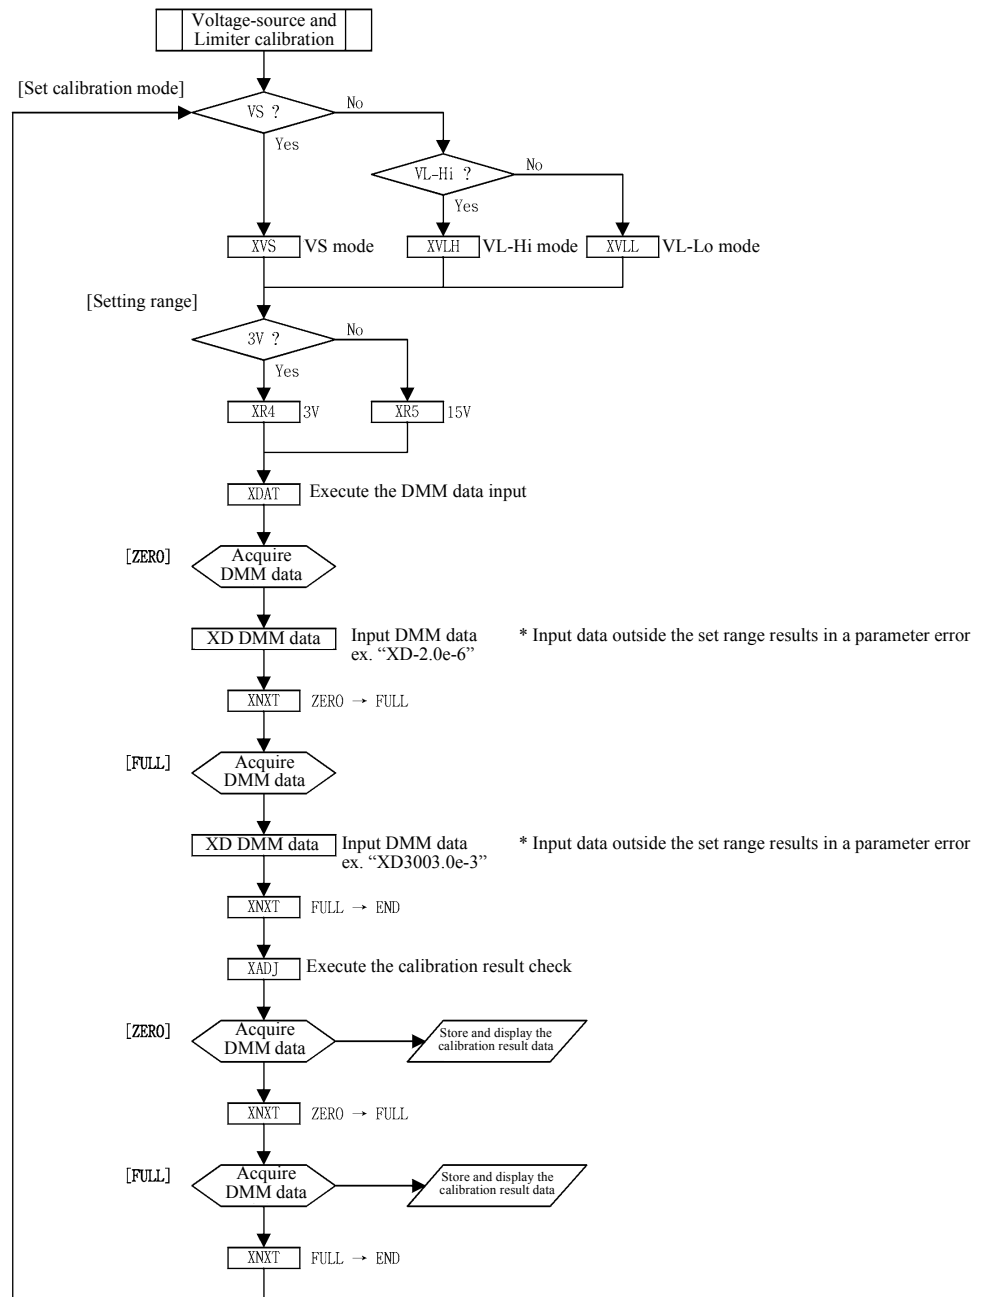
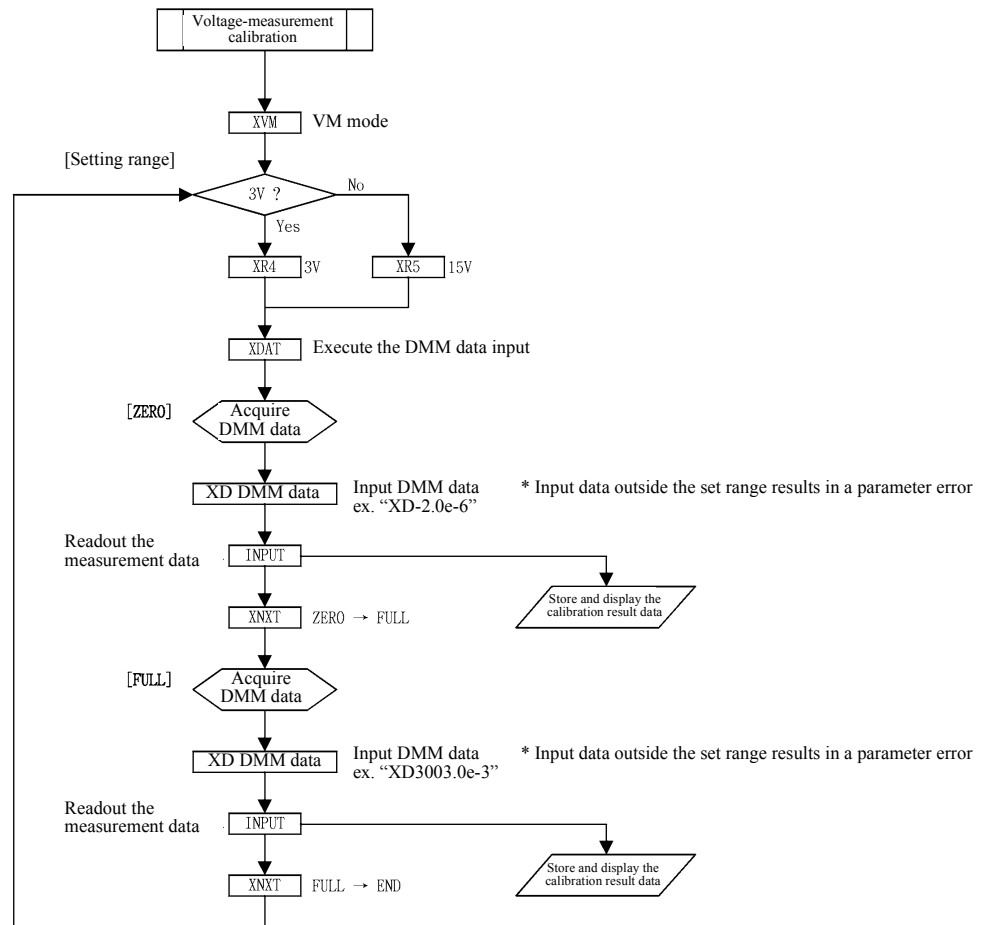

Figure 8-4 Calibration Procedure (2)
Figure 8-5 Calibration Procedure (3)
5. Carry out the calibration according to the procedure shown in Figure 8-4 and Figure 8-5.